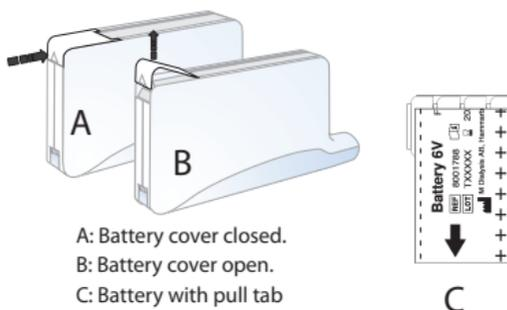

Fig. 2
1. Open the battery cover by pressing with your thumb in the direction of the arrow (see Fig. 2 A,B).